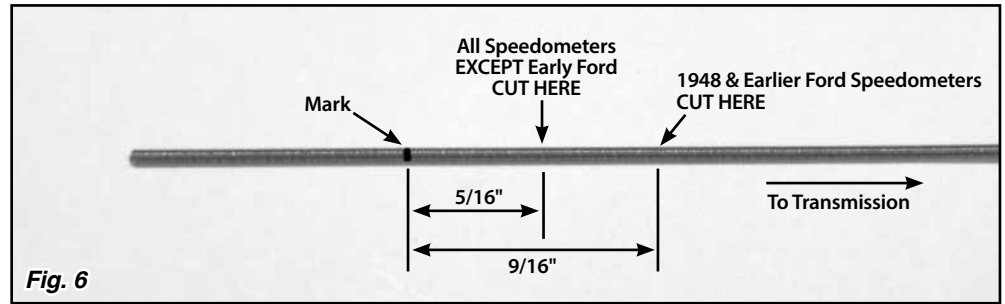

Fig. 6
Step 8, All Speedometers EXCEPT Early Ford: Measure 5/16" back towards the transmission from your mark, and cut the inner wire there. **Fig. 6**
Step 8, 1948 & Earlier Ford Speedometers: Measure 9/16" back towards the transmission from your mark, and cut the inner wire there. **Fig. 6**